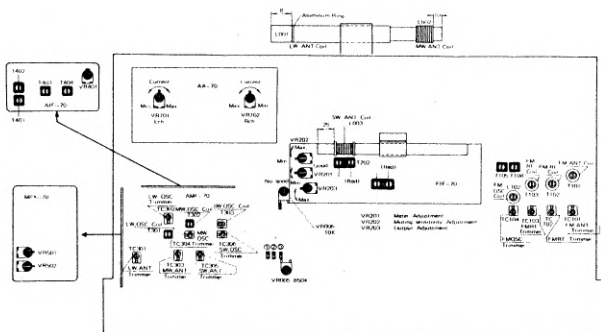

Figure 2
- (d) Set the Aluminium ring of L001 (Ant. coil) as shown in Figure 2.
- (e) Set L002 (Ant. coil) as shown in Figure 2.
- (f) Set L003 (Ant. coil) as shown in Figure 2.